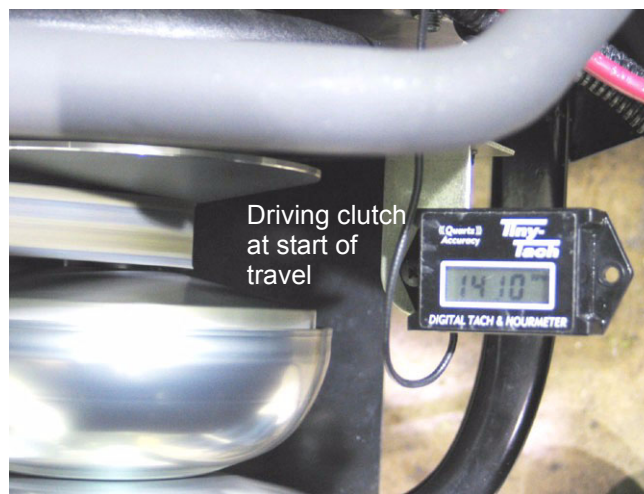

Figure 5.32
- 5.32. Gradually increase the speed of the engine (manually, not through adjustment), and observe the point where the outer sheave of the driving pulley moves in to compress against the belt. See Figure 5.32.